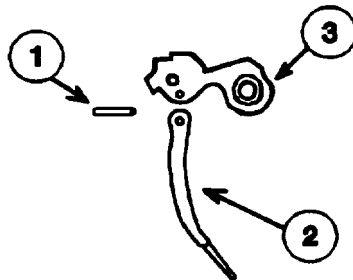

Figure 6-30. Removing Hammer Strut And Hammer Strut Pin
(17) Place the hammer group on a bench block.
(18) Using a 3/32" punch and 4 oz hammer, drive out hammer strut pin (1), Figure 6-30. Separate hammer strut (2) from hammer (3).
(8) Inspect hammer strut pin (1), Figure 6-30, and hammer strut (2) for burrs or wear. If unserviceable, replace hammer strut or hammer strut pin.
(9) Inspect half-cock notch and full-cock notch positions of the hammer (3), Figure 6-30, for cracks, wear or chips. If unserviceable, replace hammer.
(1) Align the hammer strut (2), Figure 6-30, with the hammer (3).
(2) Use a 3/32" punch and 4 oz hammer to install hammer strut pin (1), Figure 6-30.